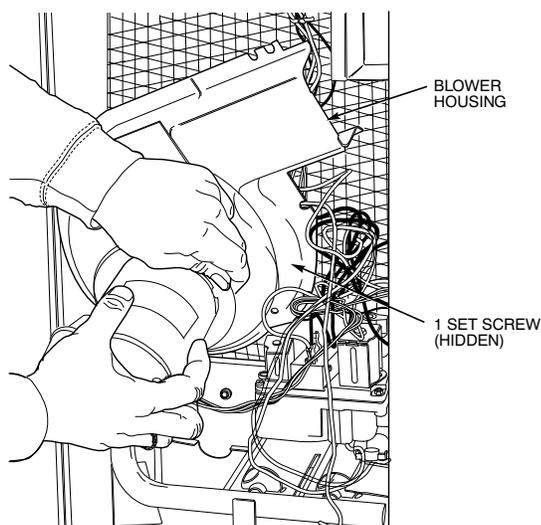

Fig. 36 – Removing Inducer Assembly A200292
15. Remove 5 screws holding Inducer Assembly (see Fig. 36) and remove assembly.